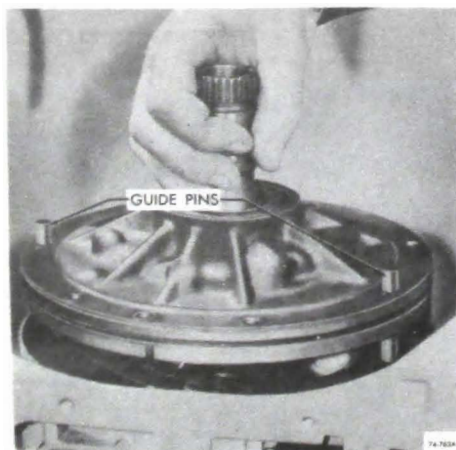

Figure 76-763
19. Install guide pins into transmission case. See Figure 76-763.